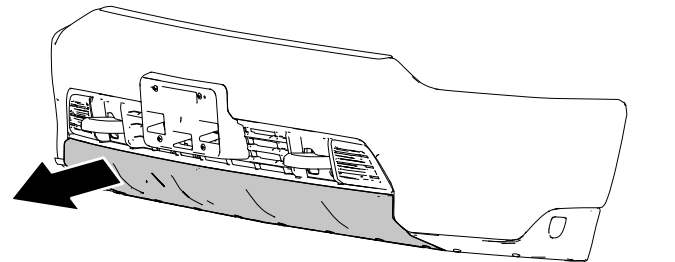

Figure 2
5. Remove the existing bumper trim (Figure 2).